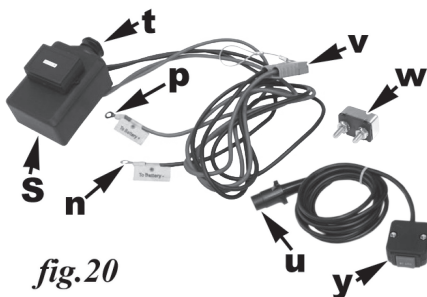

fig.20
The control box includes a transponder that can connect it wirelessly to a wireless remote control switch (optional at extra cost). There is also a hard-wired manual winch control switch (y, fig.20) included to operate your plow.
1. Attach the control box (s,fig.20) to the vehicle in the engine compartment. Mount it securely, away from moving parts and sources of heat. Take into account the amount of wire available to reach the vehicle battery and the amount of wire available to connect to the winch leads.
2. Run the red (p, fig.20) and black wires (n, fig.20) attached to the blue 2 inch connector plug (v, fig.20) forward to a point outside the front of the vehicle near the custom mount, where the plug can easily be connected to the plow lead. Leave some slack.
4. The red wire must be connected to the positive terminal of the battery with an intervening in-line 35 amp circuit breaker (w, fig.20) or fuse. The 35 amp circuit breaker is necessary to prevent possible electrical damage to either the winch or the vehicle's electrical system.
5. Run the hard-wired control lead so that the switch (y, fig.20) goes into the cab of the vehicle and the plug (u, fig.19) connects to the socket in the top of the control box (t, fig.20).